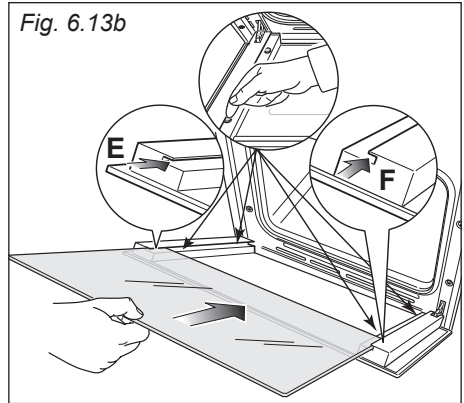
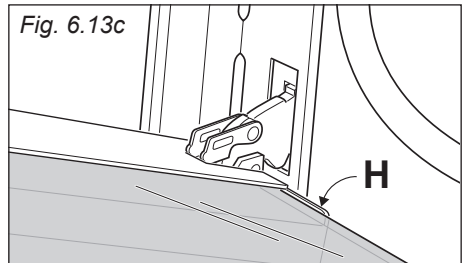

Fig. 6.13b
Fig. 6.13c
- IMPORTANT:** It is advisable, while refitting the glass, to keep pressed in position the four rubber pads “D”, by a finger, to avoid breakage or slippage of the rubber pads themselves (fig. 6.13b).
- Insert the pane in the left “E” and right “F” slide guides (fig. 6.13b), and gently slide it to the retainers “H” (fig. 6.13c).